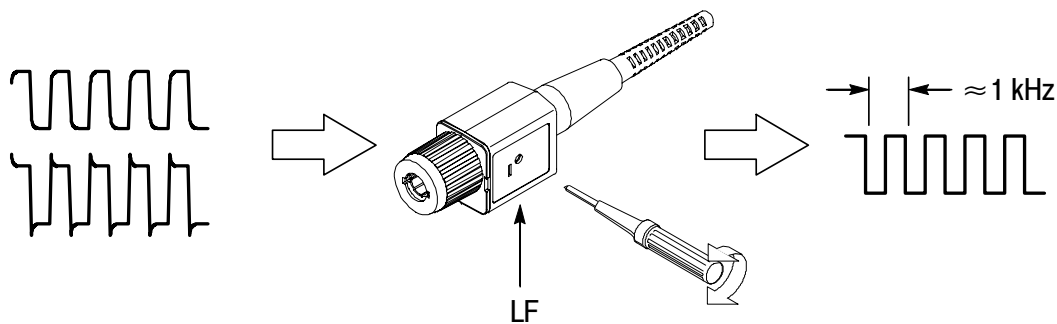

Figure 4: LF Compensation Adjustment
2. Compensate the probe by adjusting the trimmer in the probe compensation box so that the corners of the signal are square. See Figure 4.